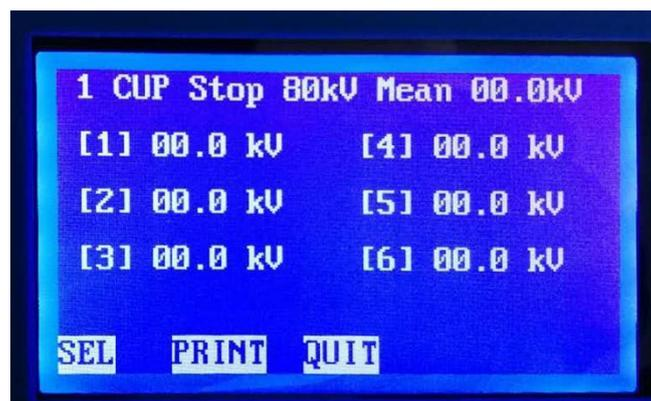

Figure 7.
7. For this model, every cup of up to 6 times parallel determination parameters such as the breakdown voltage value will be automatically stored. After the measurement screen will display to remind the test, press the confirmation key to return to the start page (figure 1).Press to print or display, enter the sample single breakdown voltage value, arithmetic mean value and measurement of the date and time display child pages (figure 7 ~ 9).